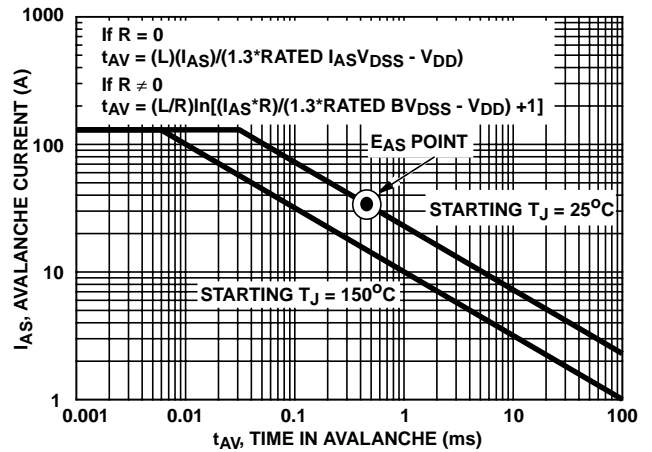

FIGURE 10. UNCLAMPED INDUCTIVE SWITCHING CAPABILITY
4.  $V_{DD} = 15\text{V}$ , starting  $T_J = 25^\circ\text{C}$ ,  $L = 300\mu\text{H}$ ,  $R_G = 25\Omega$ , peak  $I_{AS} = 34\text{A}$ , (Figure 10).